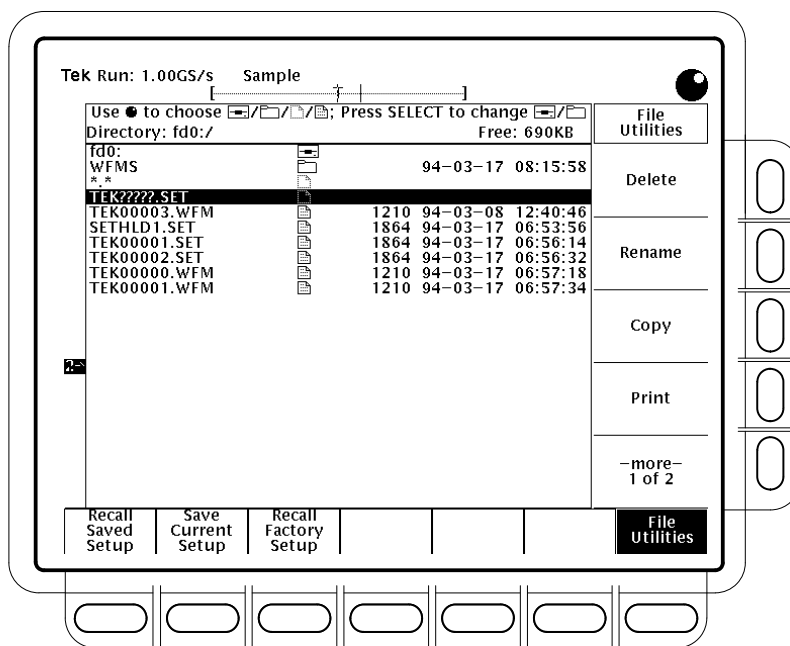

Figure 3-68: File Utilities
**NOTE.** The amount of free space on the disk is shown in the upper right corner of the display. The oscilloscope shows the amount in Kbytes (or in Mbytes if the free space is 1 Mbyte or more). To convert the amount to bytes, you simply multiply the Kbytes amount times 1024. Thus, the 690 Kbytes shown in Figure 3-68 = 690 Kbytes x 1024 bytes/Kbyte = 706,560 bytes.